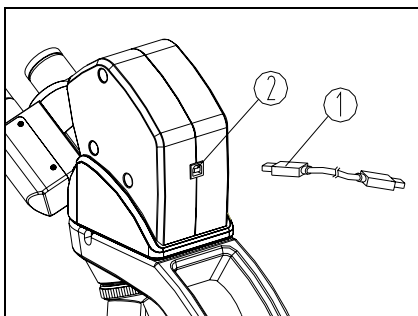

Fig.19
Insert the connector① of data cable into the USB interface② on the back of microscope head, and insert the other connector into the USB interface of the computer (See Fig.19), view mricoscope video by video capture and analysis software and use binocular observation (Only for USB digital microscope.)